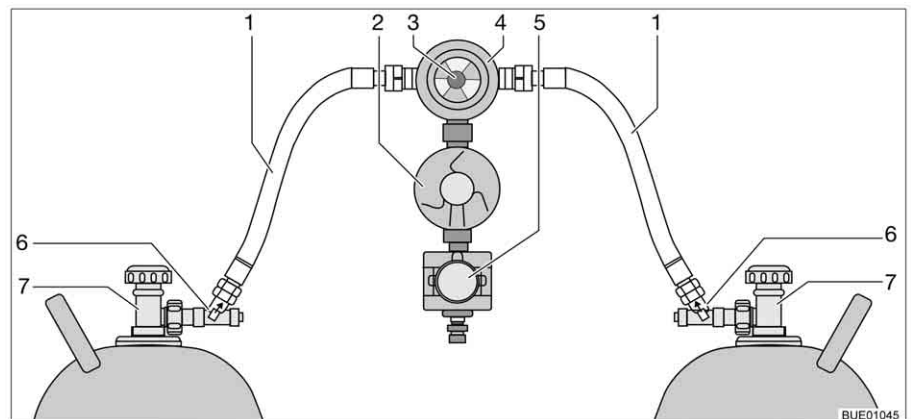

Fig. 154 Crash protection unit switching facility
The crash protection unit consists of two flow restrictors with manual release button (Fig. 154,6) a reversing valve (Fig. 154,4) with pressure regulator (Fig. 154,2), an electrovalve (Fig. 154,5) and the operating unit with tricoloured LED. The reversing valve is installed between the two gas tubes (Fig. 154,1).
Use the knob (Fig. 154,3) on the reversing valve to select which of the gas bottles is to be used as a primary bottle and which is to be used as a reserve bottle.
Only the electrical functions can be switched at the operating unit (Fig. 155). The regulator taps on the gas bottles (Fig. 154,7) and the release buttons (Fig. 154,6) must be opened manually.
- Open the regulator taps of the gas bottles (Fig. 154,7).
- Press the release buttons (Fig. 154,6) successively for 10 seconds.
- Use the knob (Fig. 154,3) on the reversing valve (Fig. 154,4) to select the gas bottle which is to be the primary source of gas (primary bottle). Always turn the knob as far as it will go.
- Close the regulator taps of the gas bottles (Fig. 154,7).